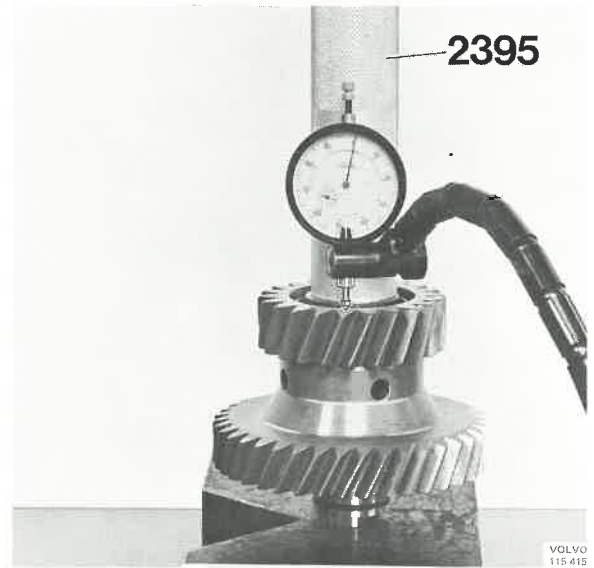

Fig. 43-169. Checking clearance
5. Place the intermediate gear complete in a press and fit 2395 on the small bearing inner race, Fig. 43-169. Press on the bearing using a force of about 1 ton. Check the axial clearance of the gear with a dial indicator. The clearance should be  $+0.01$  mm ( $+0.0004$ "") to  $+0.06$  mm ( $+0.0024$ ""). Remove the requisite number of shims in order to get the proper clearance.